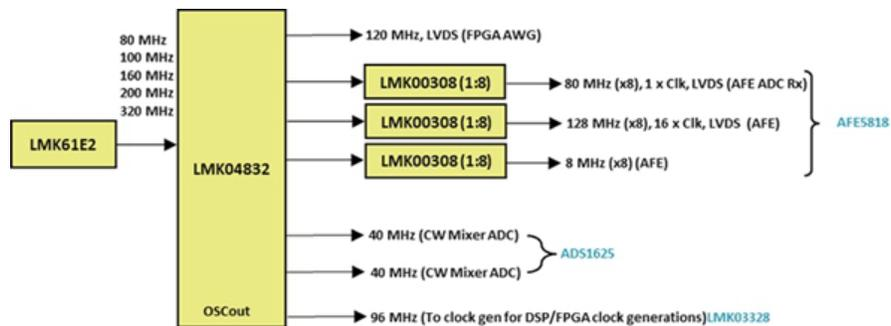

Figure 1. Clock Tree Diagram Example for an Ultrasound Scanner
To visualize the clocking considerations in this article, we will refer to the ultrasound scanner clock tree in Figure 1.
- Input type or format.** Typically, your clock tree will originate from a self-driving clock source – either an oscillator, or perhaps a voltage-controlled crystal oscillator (VCXO) or XTAL (crystal). Determine what your input frequency is and its input format. The input is a starting point for defining the rest of the clock tree. It must be compatible with your first stage of devices. For example, if your input is a crystal, you must select a device with internal circuitry to accept a crystal input. Otherwise, there will be no outputs generated by that device and, if your clock tree has multiple stages, no inputs going to the rest of the devices. The ultrasound scanner clock tree example in Figure 1 uses a LMK61E2 ultra-low jitter oscillator. The LMK61E2 can generate a wide range of frequencies, including 80 MHz, 100 MHz, 160 MHz, 200 MHz and 320 MHz, which can meet most input frequency requirements.
- Frequencies.** If your system needs multiple copies of the same frequency, you'll likely only need a single clock buffer. If it's more complex, with various frequencies supporting different receivers, you'll need a clock generator to generate different frequencies scaled from the same input source. The 16-channel AFE5818 analog front-end shown in Figure 1 requires 80 MHz, 128 MHz and 8 MHz frequencies. Similarly, the ADS1625 analog-to-digital converter (ADC) and LMK03328 clock generator require 40-MHz and 96-MHz inputs respectively. The LMK04832 clock generator supports these devices by generating all the required frequencies.
- Number of outputs.** When designing your clock tree, it's important to note the total number of required outputs and how many need to be the same frequency. Extra buffers can help fan-out multiple copies of the same frequency, if necessary. Along with the input frequency and format, the number of outputs is also listed in the ultrasound clock tree example in Figure 1. To provide eight 80-MHz clocks to the AFE5818, the LMK00308 1-to-8 channel clock buffer is used to fan-out the 80 MHz output generated by the LMK04832.
limits needed for registering the high and low levels of the clock cycle, and how fast the rising and falling edges are. Additionally, some devices require a single-ended input such as a sine wave or low-voltage complementary metal-oxide semiconductor (LVCMOS) clock, while other devices require differential inputs such as low-voltage differential signaling (LVDS) or low-voltage positive-emitter coupled logic (LVPECL). In Figure 1, the 80-MHz and 128-MHz clocks provided to the AFE5818 are in the LVDS format.